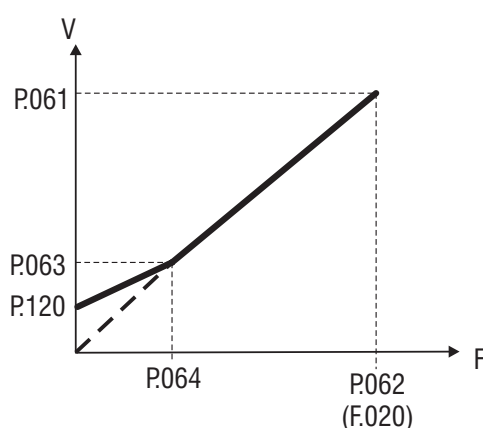

Figure 7.6.4: Custom V/F shape
P.064 parameter represents the return point of the output voltage, on the linear characteristic of V/f ratio (see figure 7.6.4).